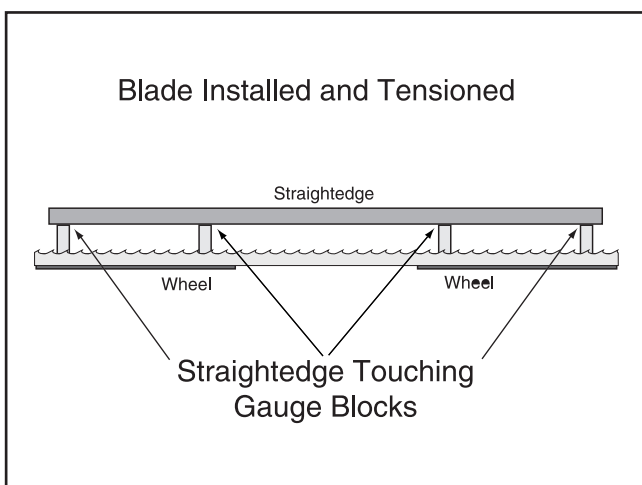

Figure 50. Overhead view of wheel position when checking with a straightedge and the blade is installed and tensioned.
11. Check the new position of the wheels. Ideally the gauge blocks will all be perfectly aligned with each other, as illustrated in **Figure 50**.